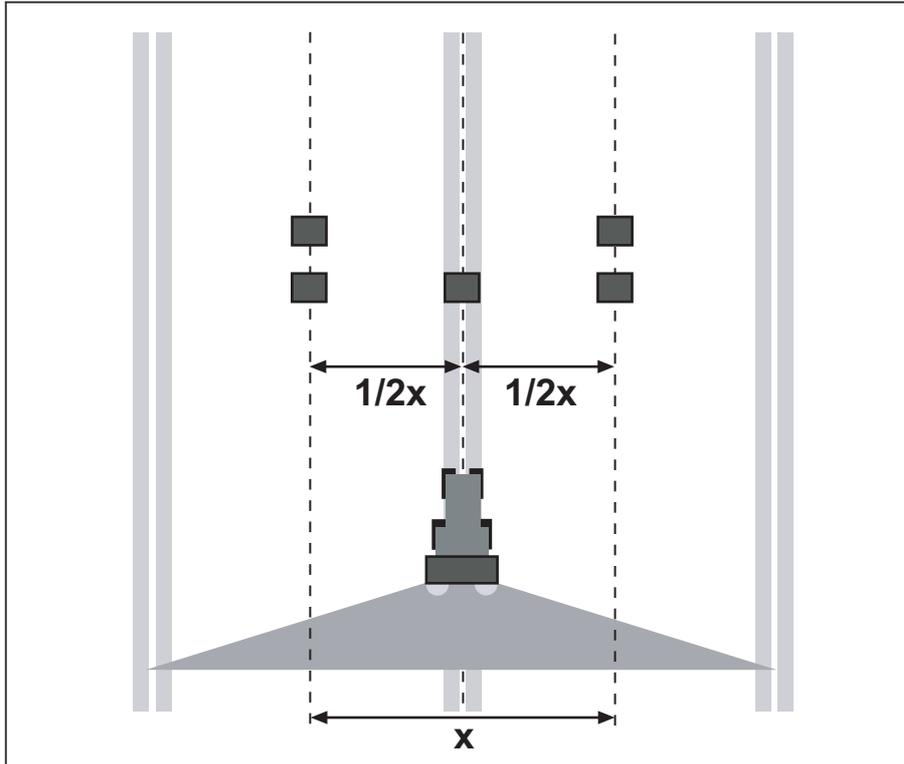

Figure 8.24: Layout for one pass
- Place two trays one after another at a distance of **1 m** in the overlap zones (between the tramlines) and one tray in the track (according to figure 8.24).